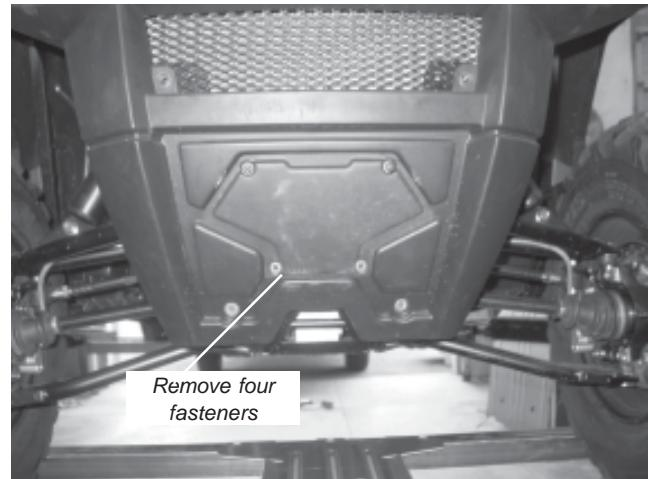

Figure 1
1. Remove winch mount access cover on front of vehicle by removing four fasteners, as shown, in Figure 1.